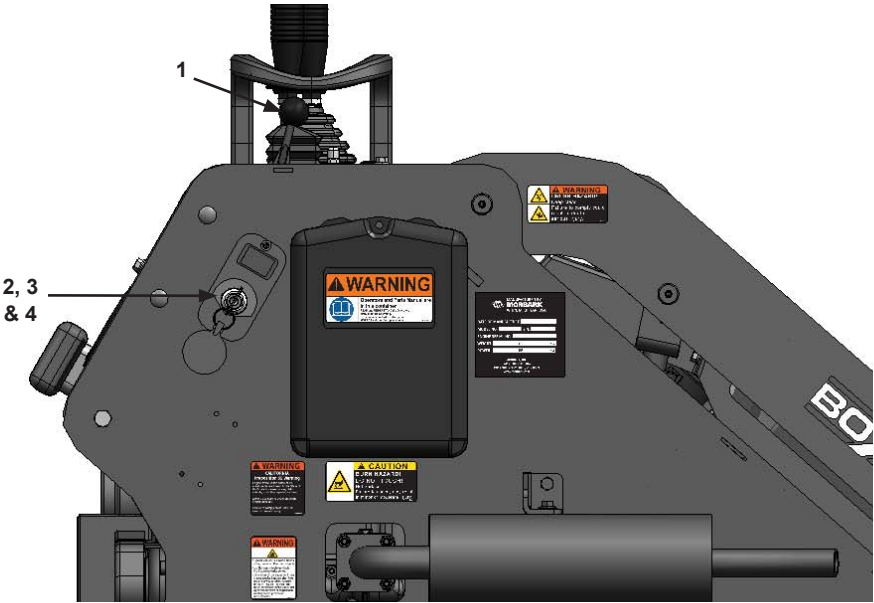

Figure 3-12 Engine Starting
2. Move the throttle lever (Item 1, **Figure 3-12**) to about half way between fast and idle engine speeds.
3. Rotate the ignition key counterclockwise to the PREHEAT position (Item 3, **Figure 3-12**) to allow the glo-plugs to warm the engine cylinders for approximately 10 seconds.